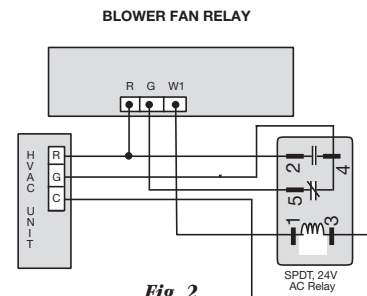

Fig. 2
When W1 is energized from the **DIGICOM**, **ModCC** or **RMOD**, the fan circuit (G) is not energized. For applications requiring the blower to be cycled on a W1 heat output, a field supplied, 24-volt coil SPDT relay must be used. The W1 output signal is connected to the heating device input terminal and the coil of the fan relay. This is required for electric heat and gas furnaces with no fan control. (See Fig. 2)